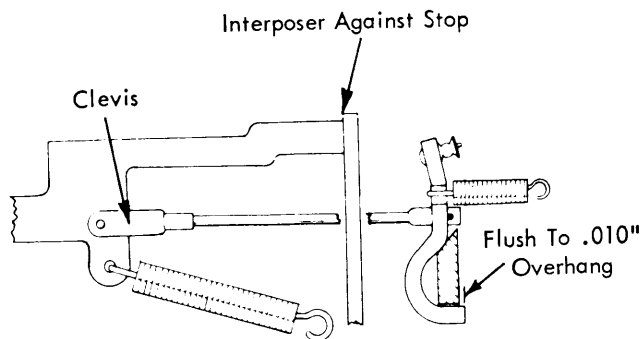

FIGURE 18. Tilt and Positive Latch Links
b. With the machine at rest adjust the tilt and positive latch links so that their latches will overlap the latch bail with .000" to .010" overhang (Fig. 18).